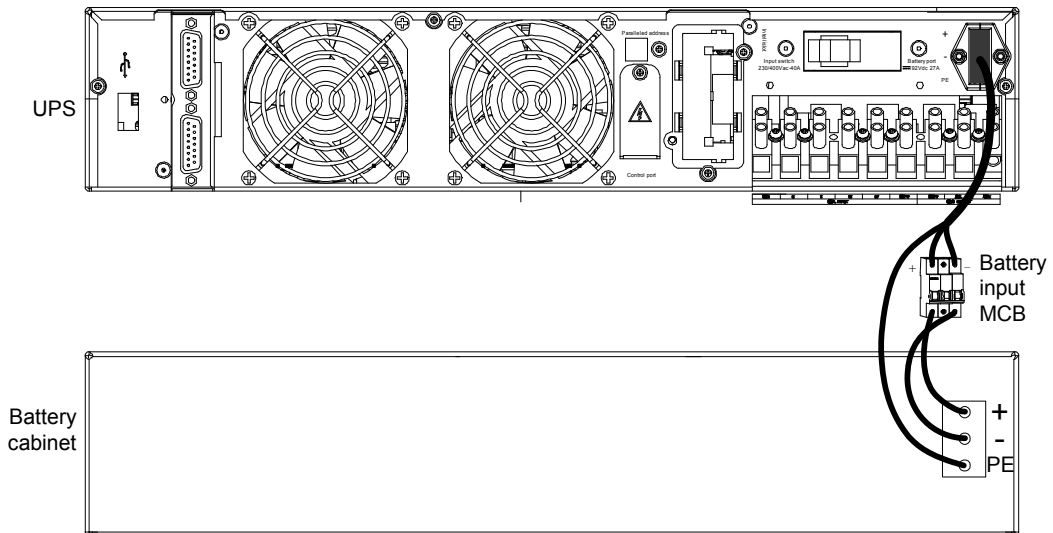

Figure 2-30 Battery cable connection for long back-up UPS
2. Power on the UPS to enter the self-test status (including the battery self-test), all the LED indicators blink, and the buzzer beeps at intervals. After the self-test, the UPS enters the standby mode, and the mains indicator turns on, as shown in Figure 2-30.